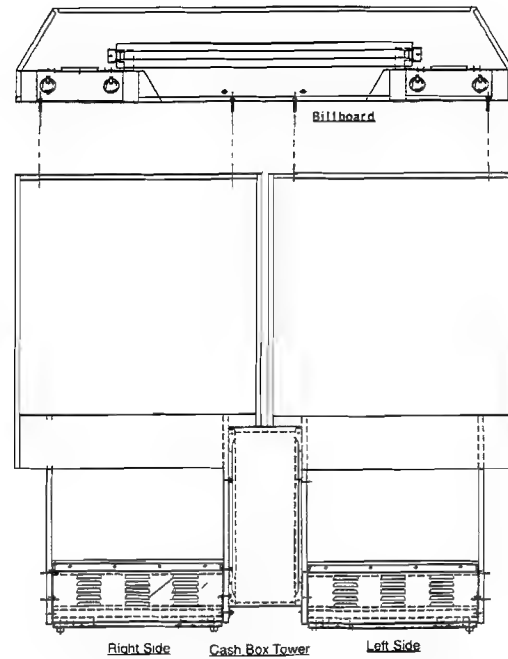

FIGURE 5: BILLBOARD INSTALLATION LOCATION
2. Carefully lift the Billboard to the top of the cabinets (see Figure 5).
5. Attach the Billboard to the top of the game cabinet using four 5/16 hex bolts installed inside the front edge of the Billboard (see Figures 5 and 6). Do not tighten the bolts yet.
6. Attach the Billboard to the top of the game cabinet using 4 5/16 hex bolts installed through the L-bracket along the back outside edge the Billboard (see Figures 5 and 6). Do not tighten the bolts yet.